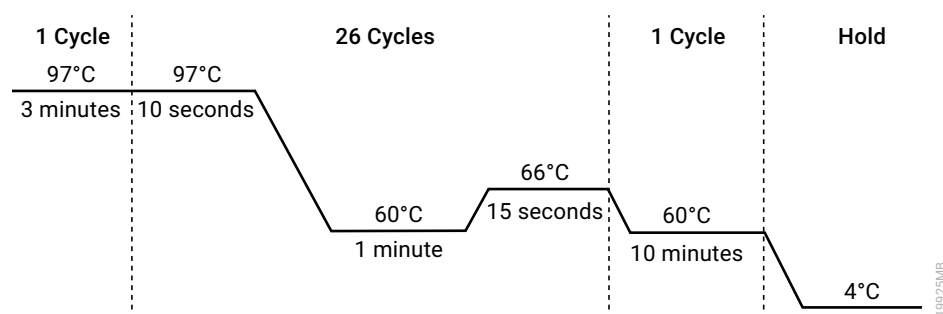

Figure 6. Thermal cycling protocol for the Mastercycler® X50s System.
- Select and run the protocol provided below and in Figure 6. The total cycling time is approximately 70 minutes.